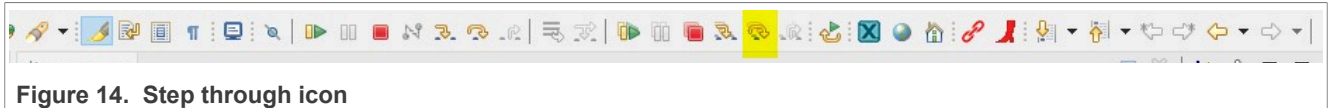

Figure 14. Step through icon
10. Now, you must be able to step through the code. Click **Step Over** option in the toolbar, see Figure 14.